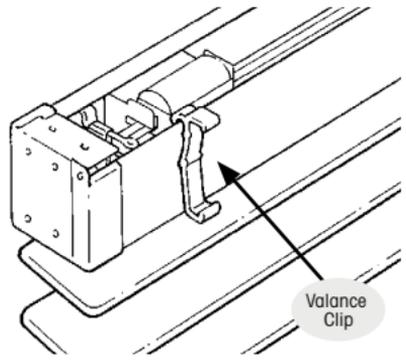

Figure D1
**NOTE:** If you ordered a 1" Wood blind with a valance, snap the valance clips to the front of the headrail before installing the blind (See Figure D1). The valance clips should be spaced equidistant from the end brackets and each other to allow proper support for the entire valance. Make sure that the Valance Clips do not interfere with any moving parts. You will install the valance slat after the blind is in place.